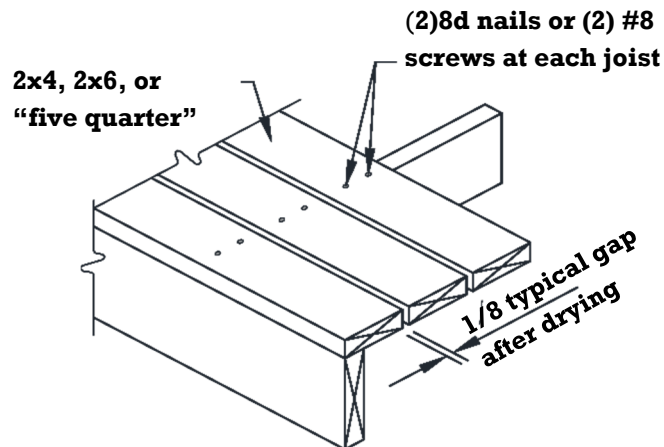

Figure 1: Typical Decking Table 1:
- Wood decking shall be attached per FIGURE 1. If installed wet, place decking with no gap so after drying a 1/8-inch gap is created.